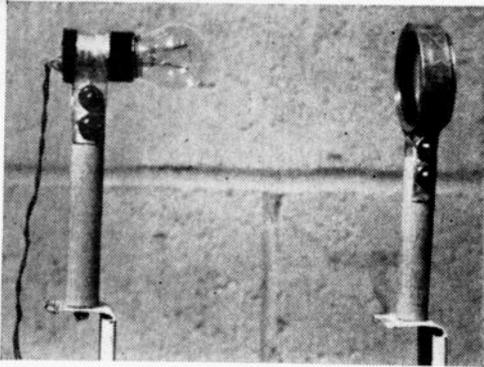
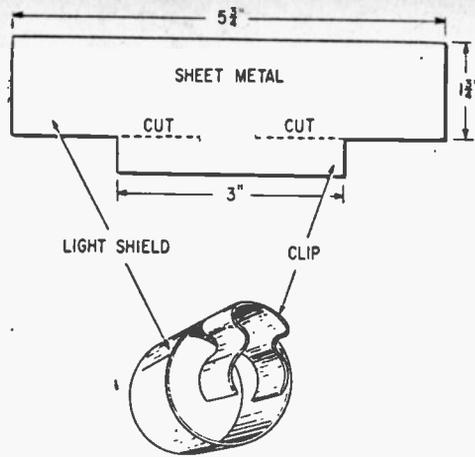

FIG. 9. Dowels, metal straps mount, bulb and lens. Upper, tightening bolt bypasses dowel.
FIG. 10. Sheet-metal light shield for bulb.
The mirror holders are bolted directly to the tops of their respective brackets, the slit and knife assemblies are attached by means of rigid angle irons, and the light bulb and lens are secured by short lengths of wood dowel (Fig. 9). All these methods of attachment permit the units to be rotated.
Mount the bulb on the end of a wood dowel (Fig. 9), and make a light shield for it out of sheet metal (Fig. 10). Do *not* use a reflector which would tend to diffuse the light. The open shield eliminates most glare and permits air to circulate freely to keep the bulb cool. Any objectionable light spillage onto other parts of the equipment can be shielded with a piece of cardboard. Proper placement of the light will be discussed later under experimental procedure.
**Lens.** Almost any short focal-length lens available (2 to 3 in. is ideal) that can form a sharp image of the bulb filament can be used. A simple double-convex magnifying glass will do; I used an old camera lens with a 2-in. focal length. Mount the lens on a wood dowel (Fig. 9).